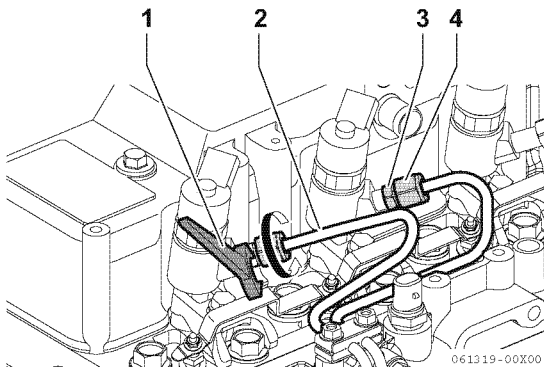

Figure 7-9
- 2- Loosen the cap nut of the high-pressure pipe on the injector side (Figure 7-9, (4)). When loosening the cap nut, hold the inlet connector of the injector (Figure 7-9, (3)) using a spanner (Figure 7-9, (1)) or other tool so as not to rotate the connector together.
- 3- Next, while pressing and holding the pipe against the bearing surface by hand, loosen the cap nut of pipe on the rail side (**Figure 7-9, (2)**) using a tool.
6. Removal of high-pressure pipe (2)